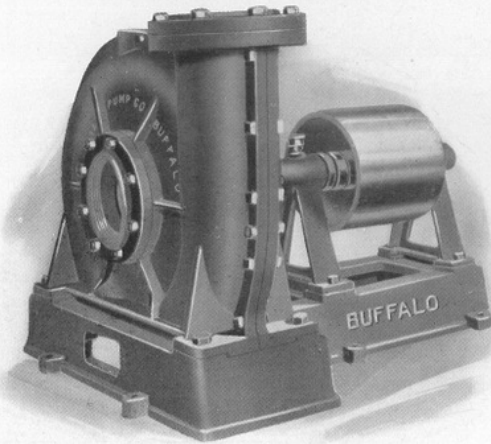
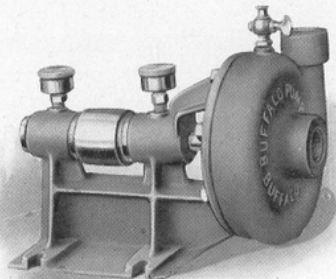

Fig. 630
Fig. 629
**Casing:** Cast iron; divided on vertical center line on 2" and larger, Fig. 630; solid, with side plate on 1½" and smaller, Fig. 629.
Sectional View of Fig. 630 Horizontal Class "M" Pumps